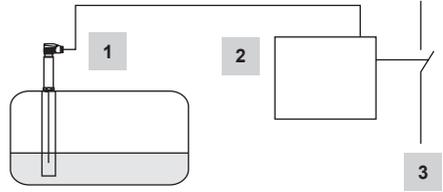

Fig. 7
- Fig. 7** Combination consisting of 1 level probe LP40 and 1 level switch LCS3050 as water level limiter. The level switch opens two separate safety circuits. Functional safety IEC 61508, SIL 3. Further applications in accordance with national sets of regulations